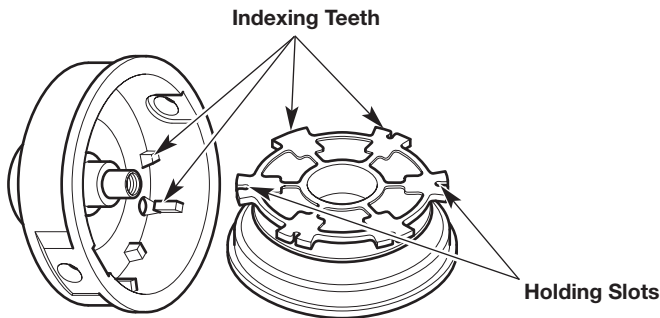

Fig. 18
6. Check the indexing teeth and holding slots for wear (Fig. 18). If necessary, remove burrs or replace the inner reel and outer spool.